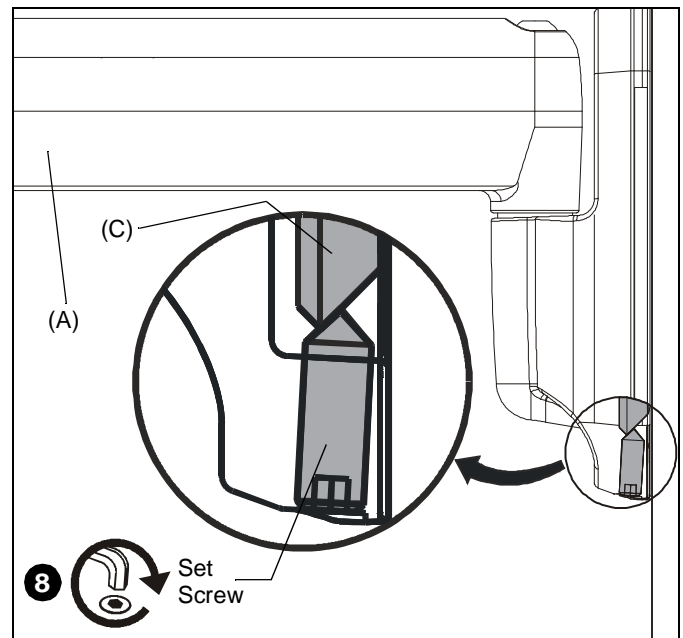

Figure 3
8. Use 5/32" hex wrench (L) to tighten set screw in bottom of KWK-110. (See Figure 3)
**NOTE:** Ensure set screw engages on back side of wall plate (C) to properly secure KWK-110. (See Figure 3)